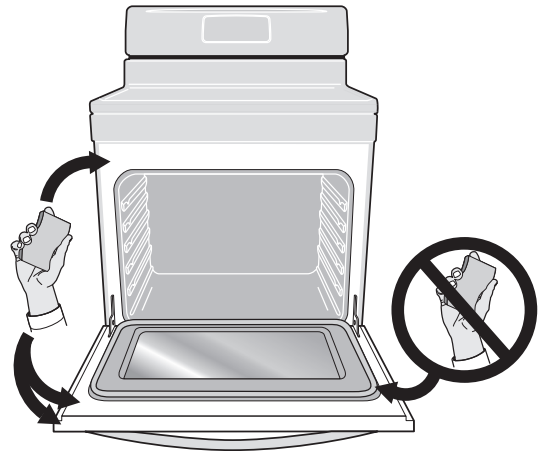

Fig. 33 Areas to clean and areas to avoid (gasket)
- Do not spray oven cleaners or oven protective coatings in or around any part of the oven interior. Clean any soil from the oven frame, the door liner outside the oven door gasket, and the small area at the front center of the oven bottom (Figure 33). These areas heat sufficiently to burn soil on. Clean using soap and water prior to starting Self Clean.